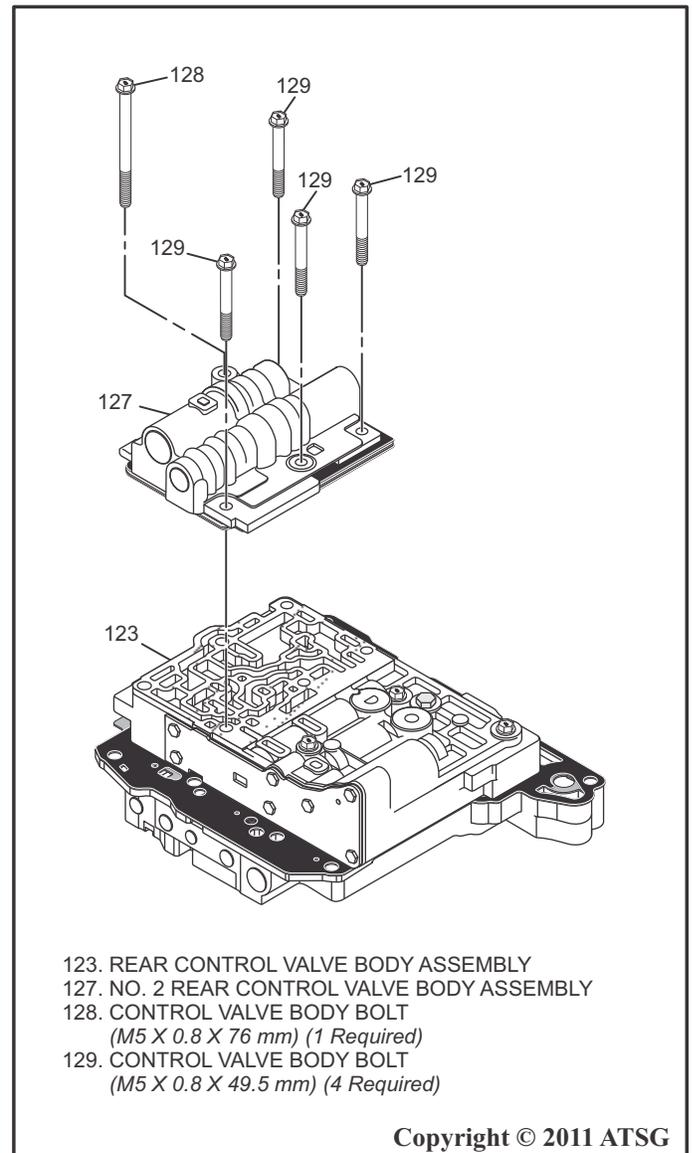

Figure 171
44. While holding the separator plate and gaskets to the No. 2 rear control valve body, flip the valve body over and align the bolt holes in the No. 2 rear control valve body with the bolt holes in the rear control valve body as shown in Figure 171.
45. Install the five control valve body attaching bolts and hand tighten only as shown in Figure 171.